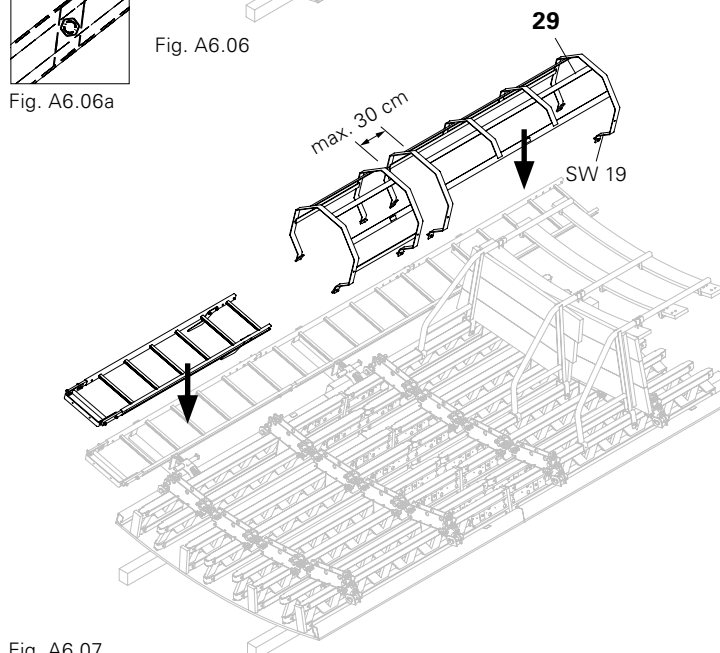

Fig. A6.07
5. Bolt on Ladder Safety Cage RFP 200 (29) at the height of each platform. (Fig. A6.07)
6. Close gaps with Ladder Safety Cage 75 or 150. Clear spacing between the ladder safety cages ≤ 30 cm. (Fig. A6.07)